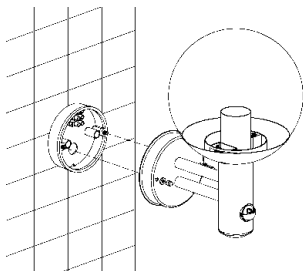

FIGURE 6
- (5) Fit the Globe Light to the mounting plate and secure with the two nuts. FIGURE 6